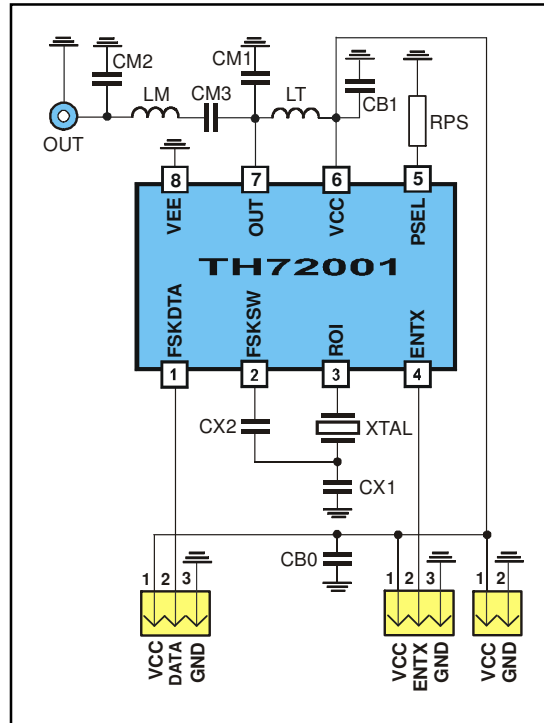

Fig. 18: Test circuit for FSK with 50 Ω matching network
typical values at $T_A = 23\text{ }^\circ\text{C}$ and $V_{CC} = 3\text{ V}$; test circuit shown in Fig. 18, $f_c = 315\text{ MHz}$
- Data according to test circuit in Fig. 18
6.1 Test circuit component list to Fig. 18